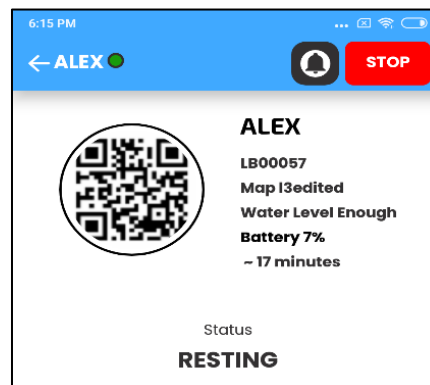

Fig. 2
- The E-stop push button is located at the top right-hand corner of every app screen (Fig. 2).